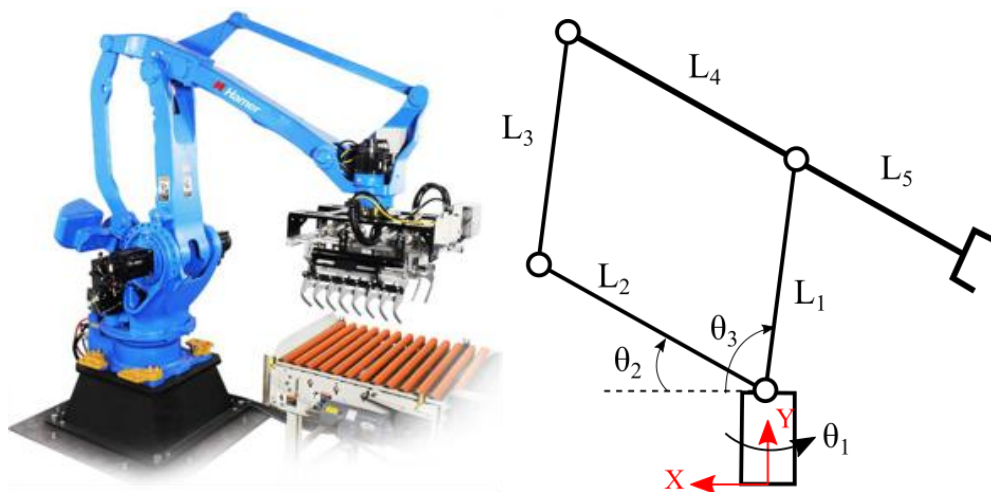

Fig2. Kinematic Structure of 3-DOF palletizer robot
**Case study 2:** Palletizing is a demanding application of stacking boxes, bags, cases, bottles, and cartons onto pallets as the last step in the assembly line before being loaded onto a shipping truck. A schematic of a 3-DOF palletizer robot can be seen in Fig 2.